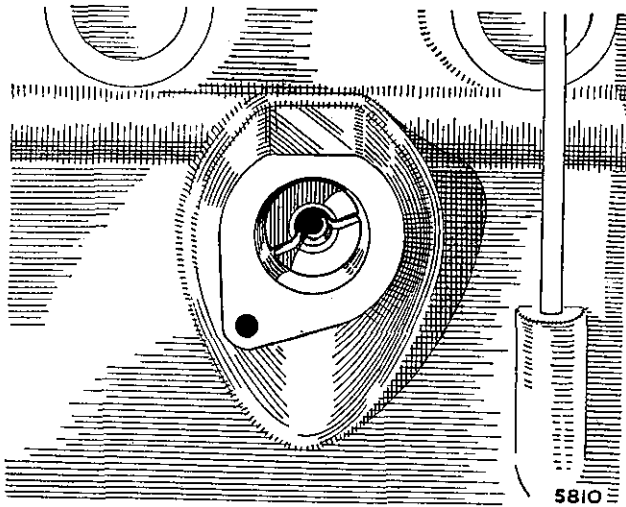

Fig. A.8
- (3) Turn the crankshaft until No. 1 piston is at T.D.C. on the compression stroke (No. 4 cylinder exhaust and inlet valves rocking and the 1/4 mark on the flywheel against the pointer).
- (4) Hold the spindle so that the drive slot is in the position shown (Fig. A.8) with the large offset uppermost, and enter the gear. As the gear engages the camshaft the spindle will turn anti-clockwise.
- (5) Refit the distributor (Sections B.1 and B.2).